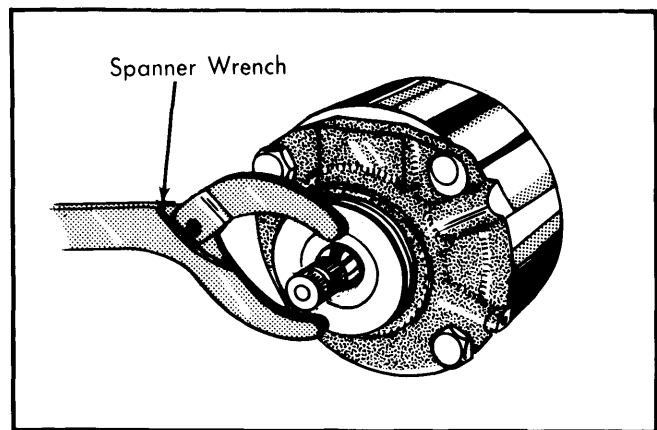

Fig. 7 Removing Bearing Insert from Bearing Cap
10) Using suitable clamp and tools (Fig. 7), remove worm gear nut from piston/steering nut. Remove seal ring and "O" ring from worm gear nut. On early models, remove axial disc from worm gear nut.